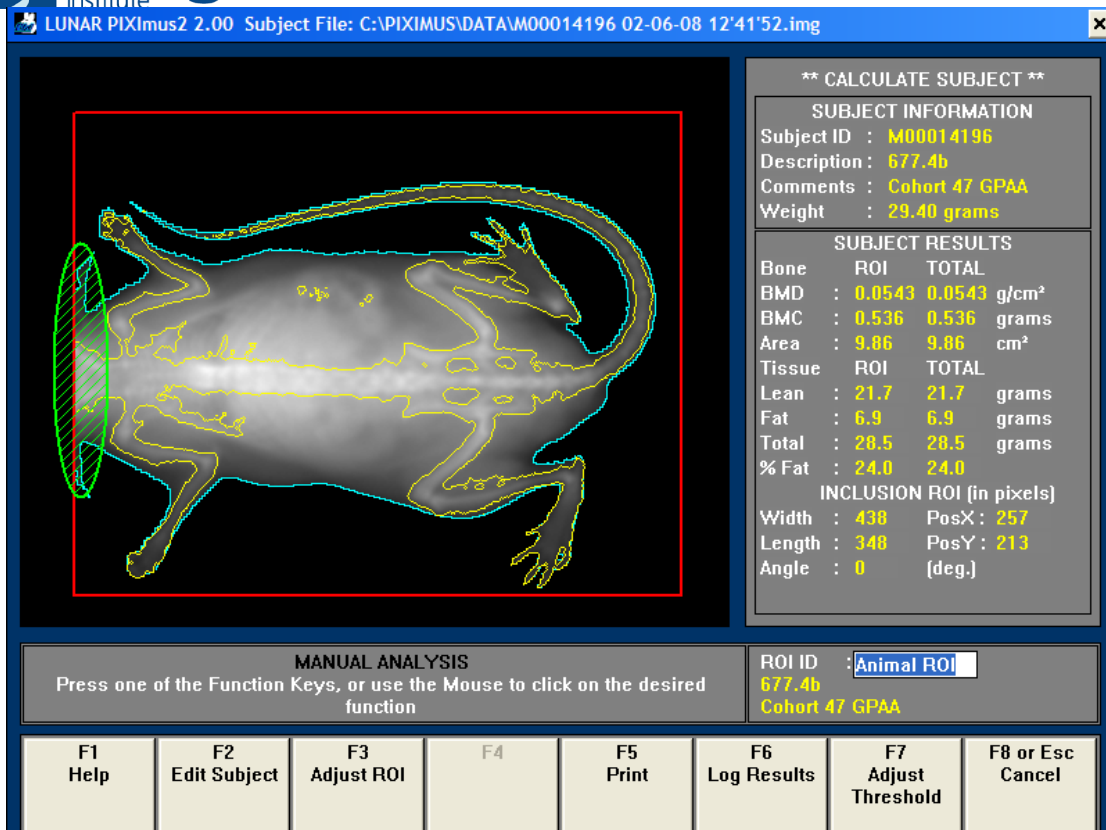

Figure 2. Screenshot of an analysed image.
- 5.5. Using the arrow keys on the keyboard, move the green shaded area to cover the head of the mouse on the image. Hold down the *Ctrl* button on the keyboard to control the size of the green shaded area whilst using the arrow keys. Hold down the *shift* button on the keyboard to increase the size of the steps. An example is shown in Figure 2.